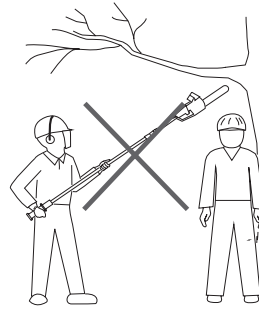

Fig. 28
7. Keep other persons away from cutting end of product and at a safe distance from the work area. Maintain a minimum distance of 10 m to bystanders (Fig. 28).